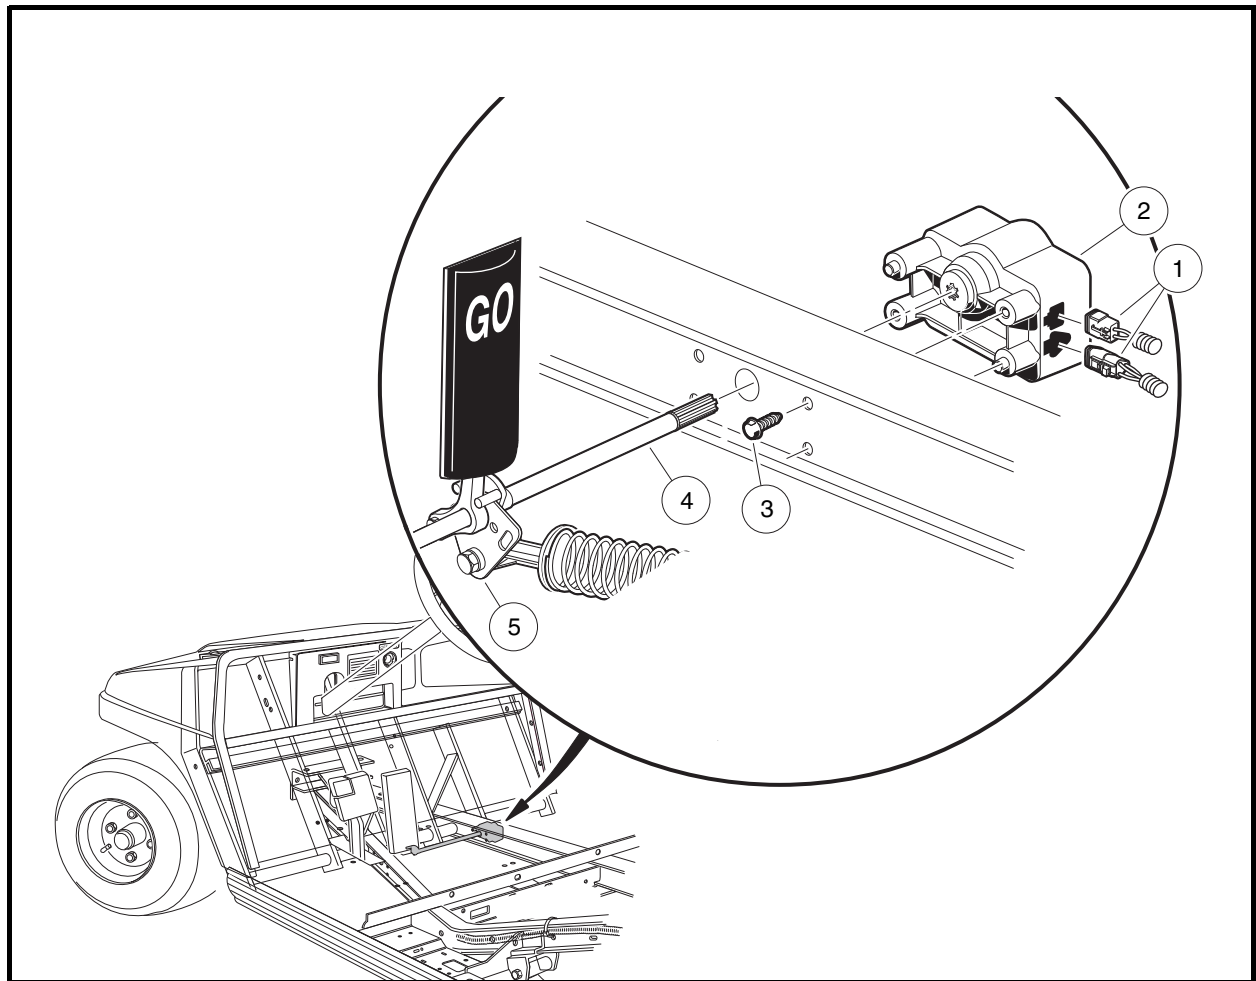

Figure 13-6 Motor Controller Output Regulator (MCOR) Mounting
3. Disconnect the two-pin and three-pin connectors (1) from the MCOR (2) (**Figure 13-6, Page 13-6**).
4. Remove the hex-head screws (3) connecting the MCOR to the frame I-beam.
6. Push the drive bar (4) into the hole in the I-beam to disengage it from the accelerator pivot rod (5).
1. Insert the splined end of the drive bar (4) through the hole in the passenger-side frame I-beam as shown (**Figure 13-6, Page 13-6**).
3. Place the MCOR (2) onto the splined end of the drive bar (**Figure 13-6, Page 13-6**). **See following NOTE.**
5. Secure the MCOR to the frame I-beam with two hex-head screws (3). Tighten screws to 23 in-lb (2.6 N·m).
6. Connect the two-pin and three-pin connectors (1) from the wire harness to the MCOR.